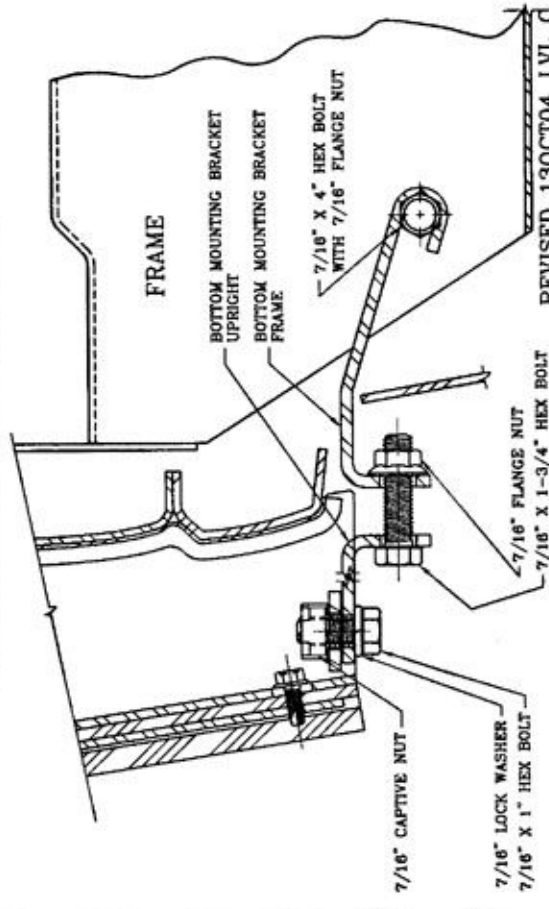

fig. 3
2. PLACE THE CENTER RING ASSEMBLY (1) FACE DOWN ON A SCRATCH-FREE SURFACE SUCH AS THE SHIPPING CARTON. INSTALL THE RIGHT (2) & LEFT (3) UPRIGHTS ON THE RING ASSEMBLY (1) AS SHOWN IN FIG. 3, MAKING SURE THEY ARE CENTERED AND PARALLEL WITH THE BARS IN THE RING. FASTEN, USING THE 1/2" SERRATED FLANGE NUTS (10) ON EACH OF THE FOUR (4) STUDS. TIGHTEN ALL FOUR (4) NUTS AT THIS TIME